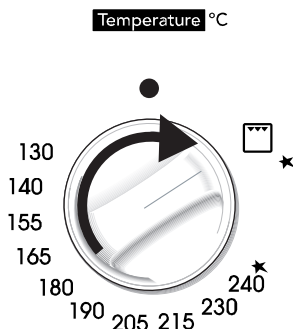

Fig. 2.4
- 2 – Lightly press and turn the thermostat knob clockwise to the position ★ (fig. 2.4), Press the knob firmly until the burner lights.